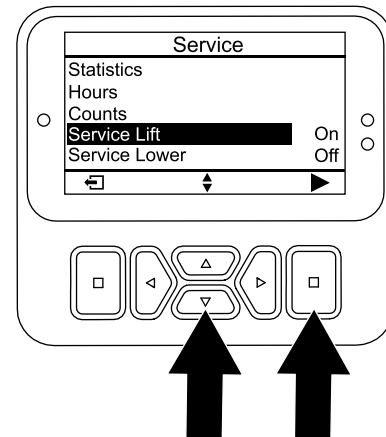

Figure 120
4. Press the down button until the SERVICE LIFT option is selected, then press the select button (Figure 120).